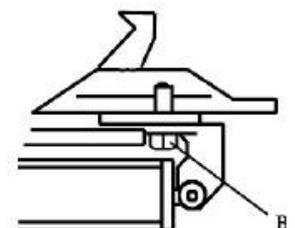

Fig 18
Note: After the first 20 days of use, retighten the jaws with tightening screws (B) on the Turntable (Fig 18)